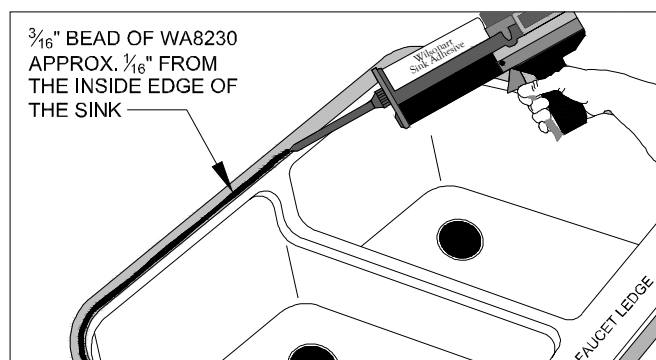

Figure 7B
- Apply the HD Sink Adhesive to the HD sink flange. (FIG. 7B)